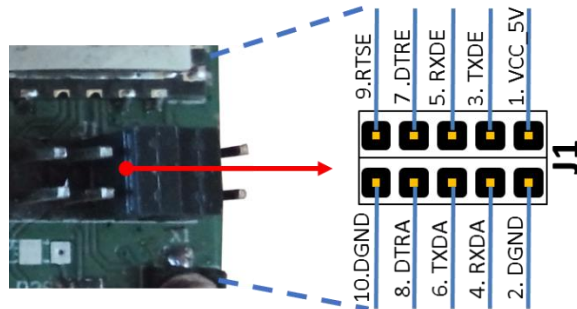

Figure 4: Programing Header PIN numbers
Supply AC phase and neutral to the board at terminal block j5. Figure 4 represents example connection of load and Triacs output (J7 & J8) connector. It is recommended to connect only phase output line from board to loads and Neutral terminal of all the loads directly to common neutral connection of the electrical network outside the board.
1. Make an input connection AC phase and Neutral connection as shown in Figure 4.